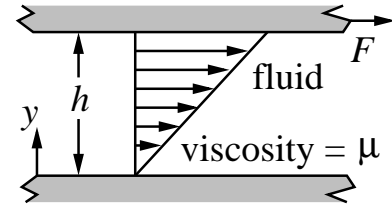

Figure 1: *Simple viscometer.*
4. (10 pts) Fig. 1 shows a conceptually straightforward way of measuring the viscosity, μ , of a Newtonian fluid. Two parallel plates are separated by $h = 0.001 \text{ m}$. The bottom one is fixed, while the top is pulled in-plane. By making some measurements, you are able to infer a constant applied shear stress of $\tau = 1 \text{ N/m}^2$ in this experiment. If the resulting velocity profile is linear (as depicted in the figure), with the fluid's speeds at $y = 0$ and $y = h$ being $u = 0$ and $u = u_0 = 1 \text{ m/s}$, respectively, determine an expression for μ in terms of τ , u_0 , and h and then substitute values to obtain a numerical estimate of μ .